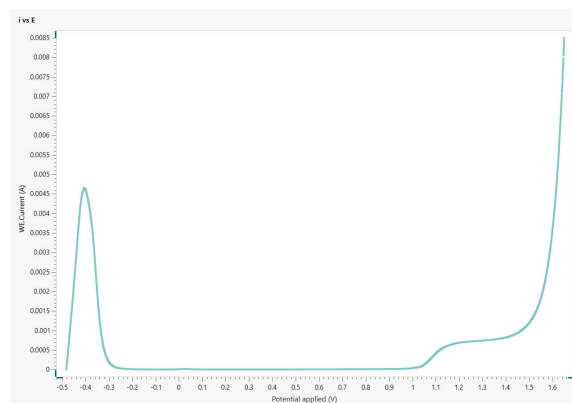

Figure 1. A plot of I vs E for the corroding sample of stainless steel in 0.5 mol/L sulfuric acid solution.
The plot of current (I) vs potential (E) is shown in Figure 1.